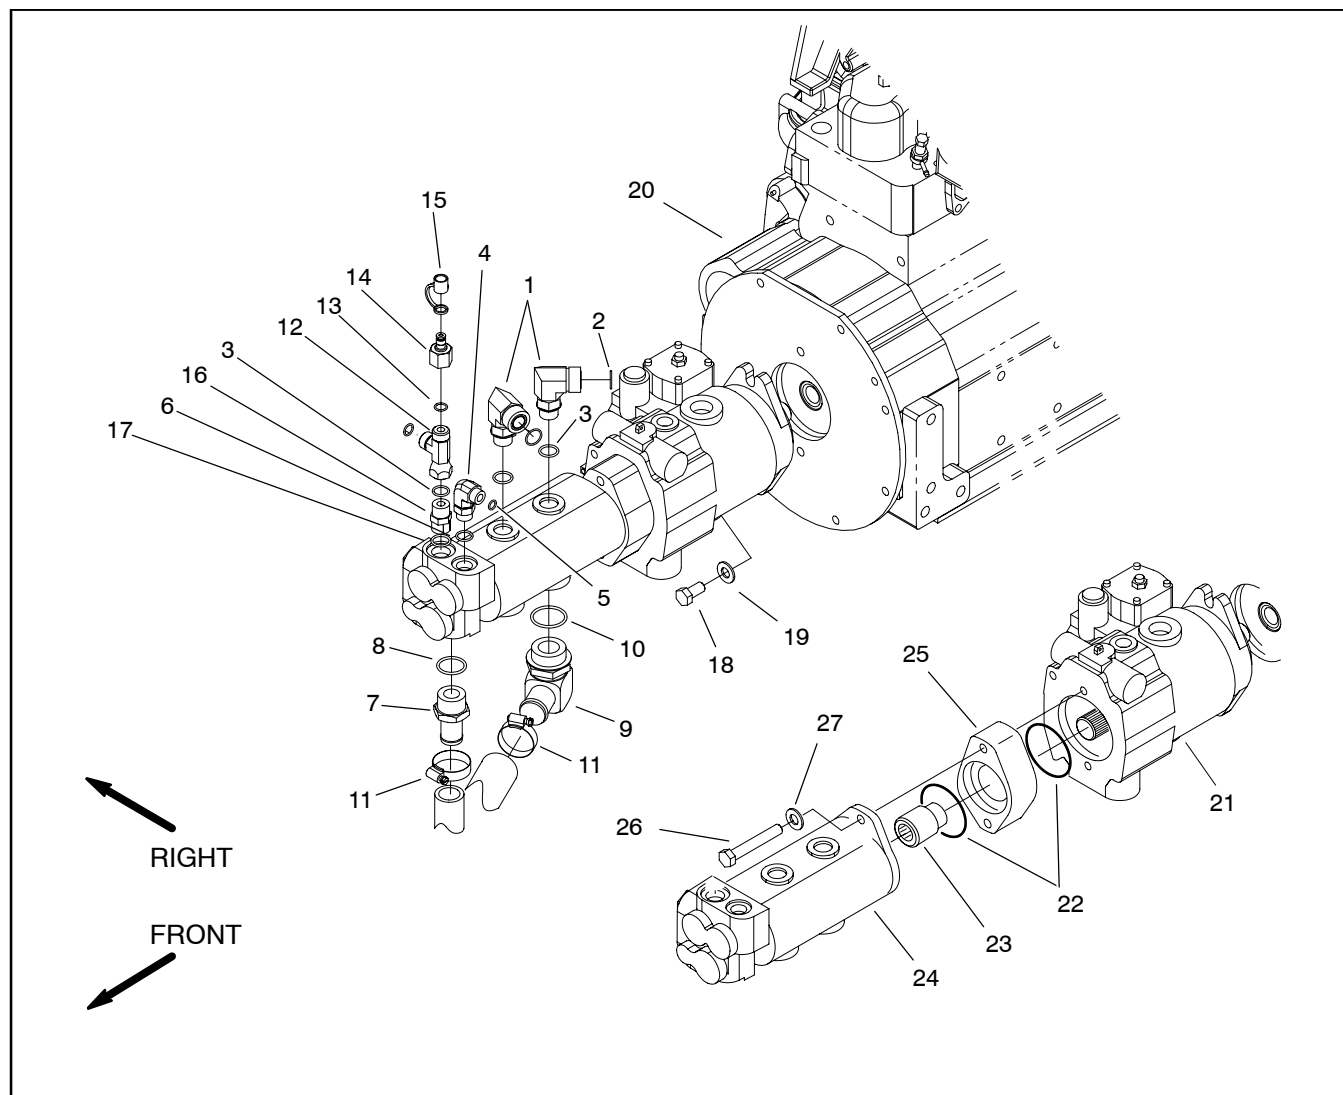

Figure 43
**Removal (Fig 43)**
8. Remove two (2) cap screws and washers that secure gear pump to piston pump. Remove gear pump, coupler, spacer, and o-rings from machine through the seat opening.
**Installation (Fig 43)**
3. Position o-rings and spacer to gear pump. Align gear teeth and slide gear pump input shaft into coupler. Secure gear pump to piston pump with two (2) cap screws and washers.